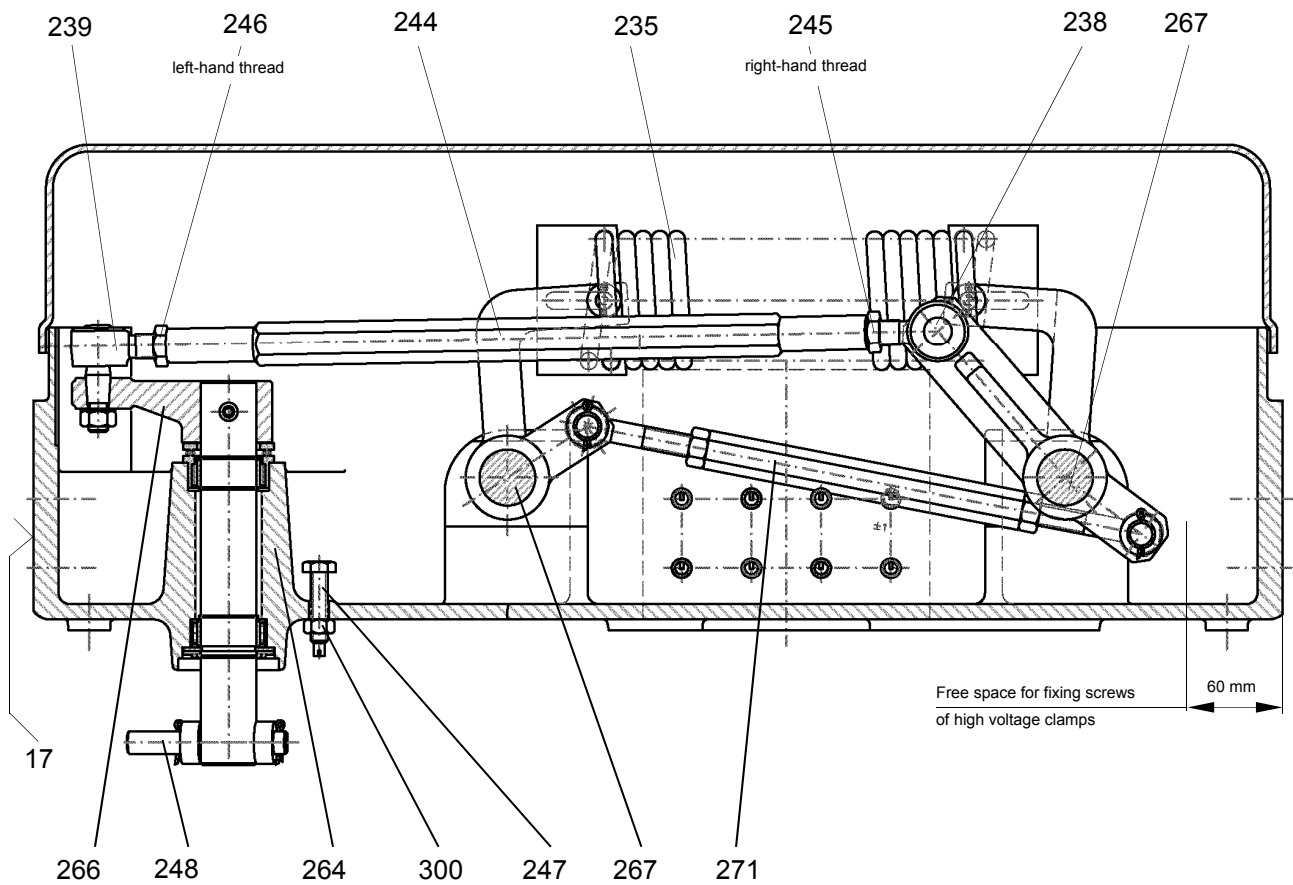

Figure 5 Gear box 224, sectional drawing: side view (switching position CLOSED)
- 7.7.8 Mark position between coupling piece and operating shaft. Perform two manual switching tests with emergency crank 39. Check for perfect dead-center interlocking by the operating linkage 244 in the gear box (Figure 5; 6).